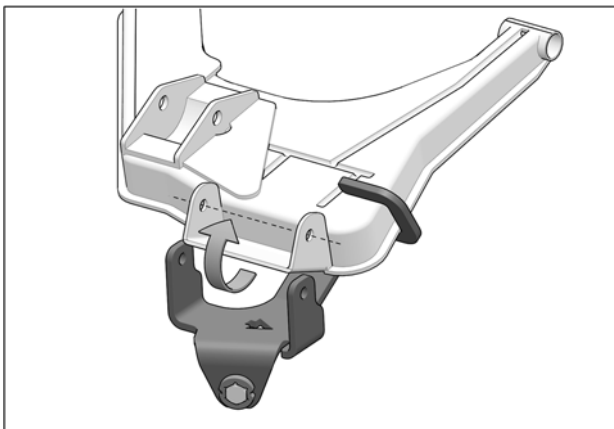

Fig. 7
7. Pivot anchor bracket up towards suspension arm and align anchor bracket bolt holes with suspension arm bolt holes. See Fig. 7